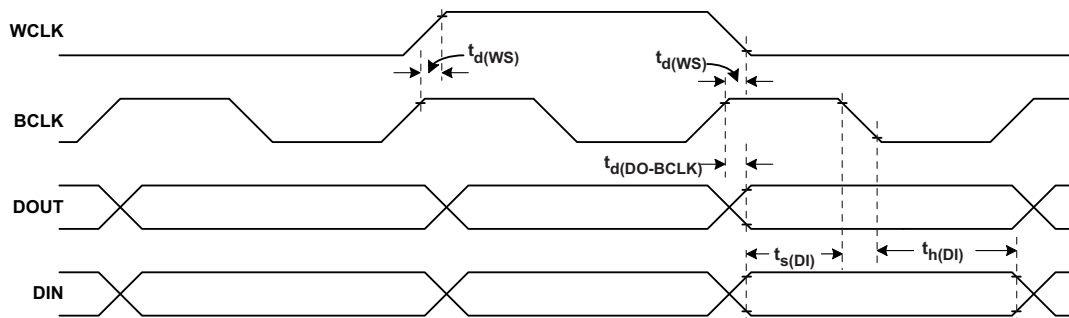

Figure 3. DSP Timing in Master Mode
8.13 DSP Timing in Master Mode (see Figure 3)